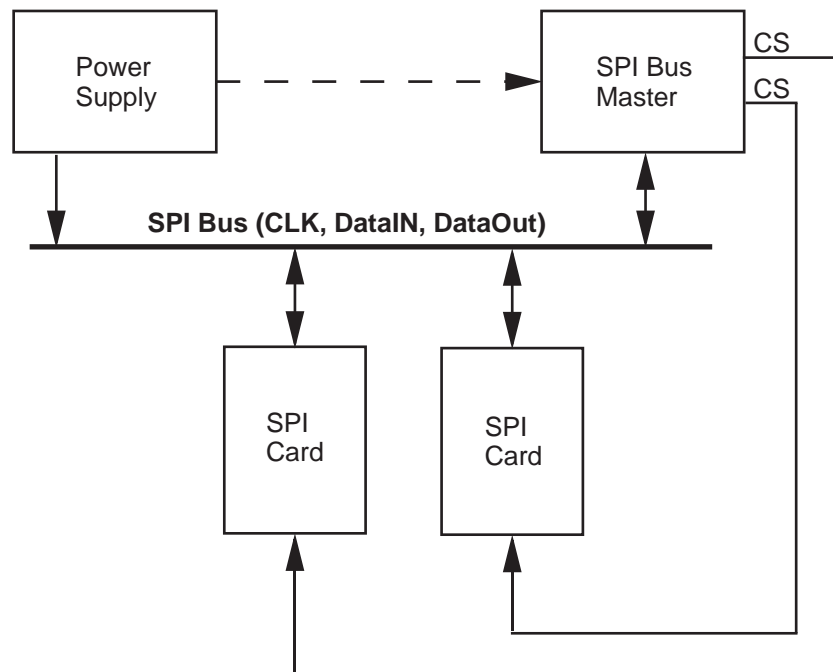

Figure 4-2 MultiMediaCard Bus System
The MultiMediaCard identification and addressing algorithms are replaced by a hardware Chip Select (CS) signal. There are no broadcast commands. A card (slave) is selected for every command, by asserting (active low) the CS signal (see Figure 4-2).